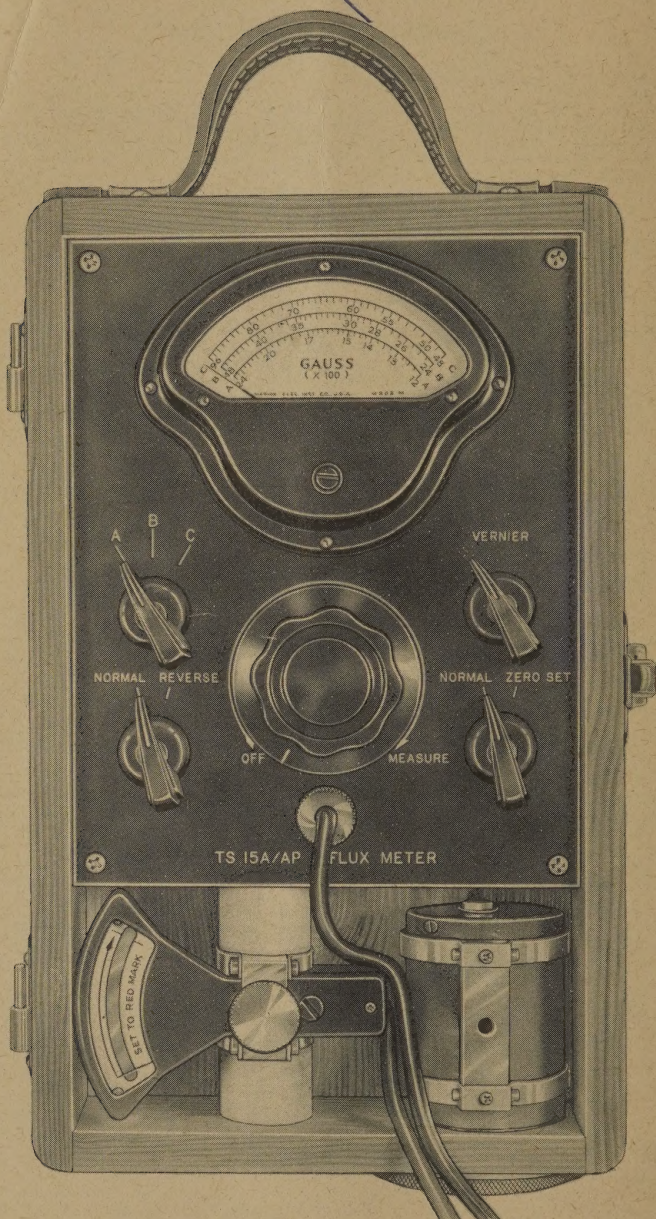

Figure 1 — Front View of Instrument
(a) — Remove Probe unit from its recess, (located at the bottom of the Carrying case — See fig. 1) and place it in a level position, (with Probe-meter face horizontal on edge of table, or any flat surface which will clear cable.)
(1) Refer to fig. 1, which illustrates the various panel controls.
(2) Select yoke to be used, (Small yoke for 0.6" to 0.75" gaps) (Large yoke for 1.3" to 1.5" gaps,) and attach to the Probe unit by means of the knurled knob.
(3) With OFF-MEASURE control knob in OFF position, place Probe unit between pole faces of magnet to be measured, making certain that the Probe is well seated, and centered. (The face of the Probe must be horizontal.)
(4) Unless the approximate strength of the magnet is known, set Selector switch to position "C". If the approximate strength of the magnet is known, set Selector switch to appropriate range.
(5) With the DIRECT-REVERSE switch in DIRECT position, turn OFF-MEASURE control knob